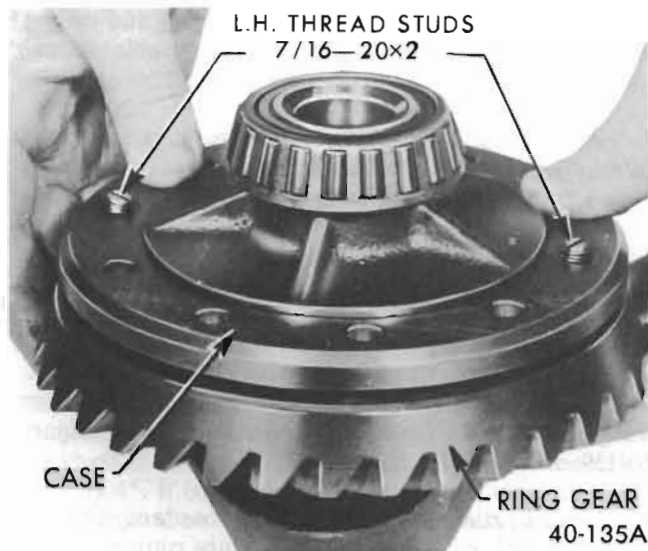

Figure 40-137 - Installing Ring Gear On Differential Case
5. After making certain that mating surfaces of case and ring gear are clean and free of burrs, thread two 7/16x20x2 (LH) studs into opposite sides of ring gear, then install ring gear on case. See Figure 40-137. Install ring gear attaching bolts just snug. Torque bolts alternately in progressive stages to 85 lb. ft.